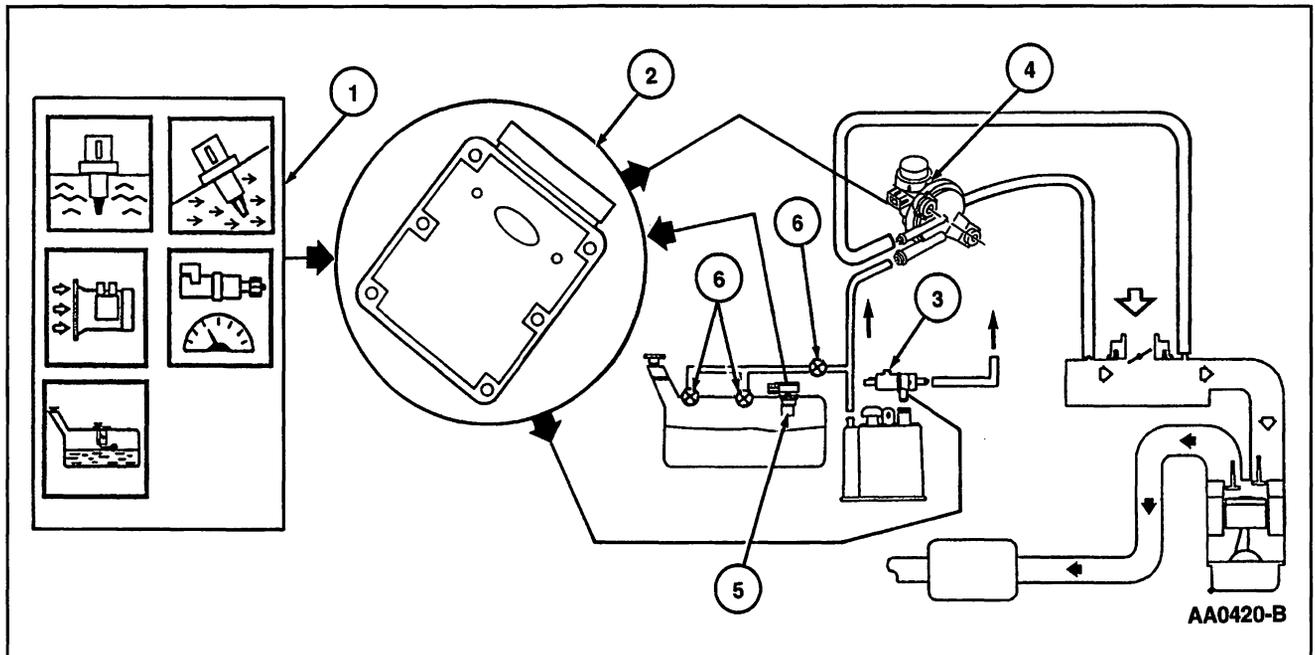

Figure 100: Enhanced Evaporative Emission System (Refer to the On Board Diagnostics Monitor System Overview for icon definitions.)
The Enhanced EVAP system (Figure 100) consists of a fuel tank, fuel filler cap, fuel tank mounted or in-line fuel vapor control valve, fuel vapor vent valve, EVAP canister, fuel tank mounted or fuel pump mounted or in-line fuel tank pressure (FTP) sensor, EVAP canister purge valve, intake manifold hose assembly, canister vent (CV) solenoid, powertrain control module (PCM) and connecting wires and fuel vapor hoses.
3. The canister vent (CV) solenoid seals the Enhanced EVAP system to atmosphere during the EVAP leak check Monitor.